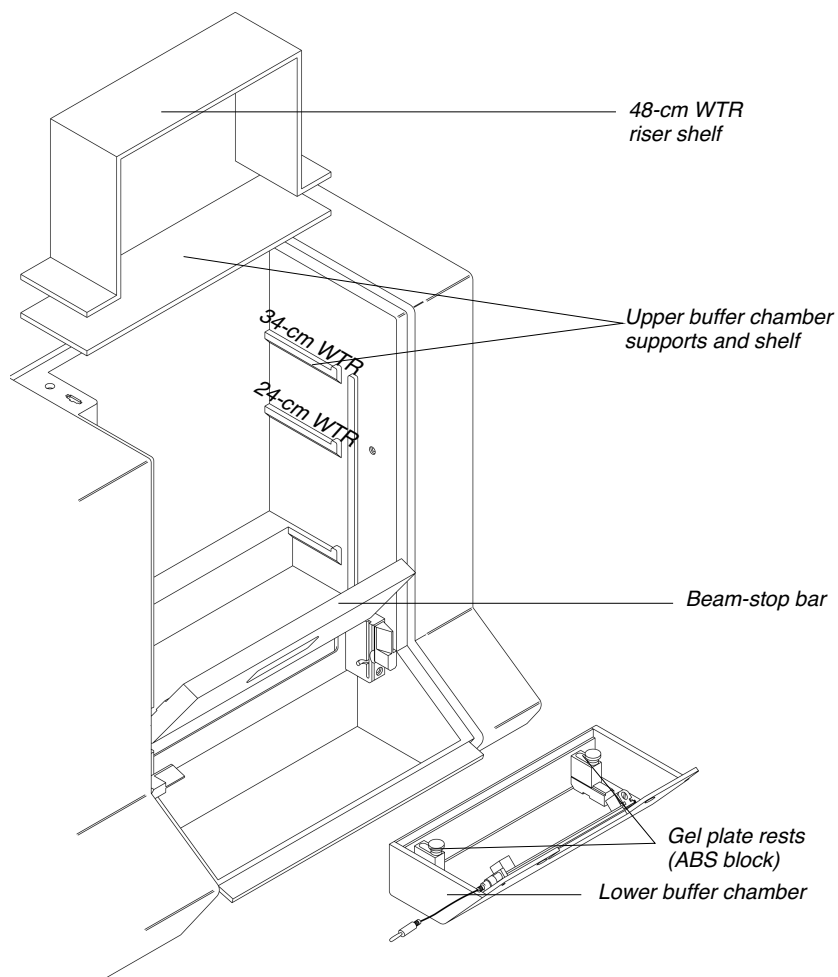

Figure 3-5. Model 373 (Stretch) Electrophoresis Chamber
- Stretch** 1. Open the door to the Model 373. The electrophoresis chamber is shown in Figure 3-5.
2. *For 24- or 34-cm gel:* place the straight white upper buffer chamber shelf on the appropriate support on the inside of the electrophoresis chamber (see Figure 3-5).